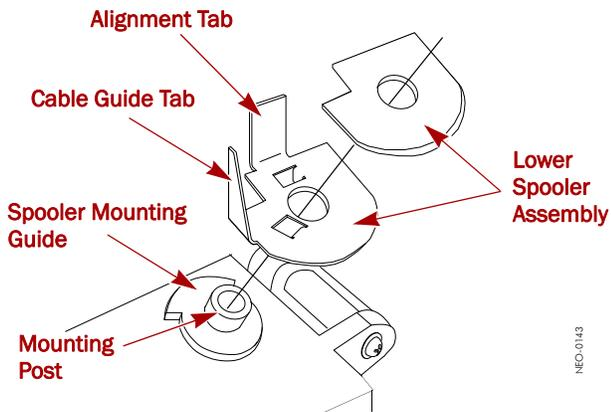

Figure 8. Shuttle Spooler Components
- a. Verify the position of the **lower spooler assembly** (Figure 8) on the shuttle.